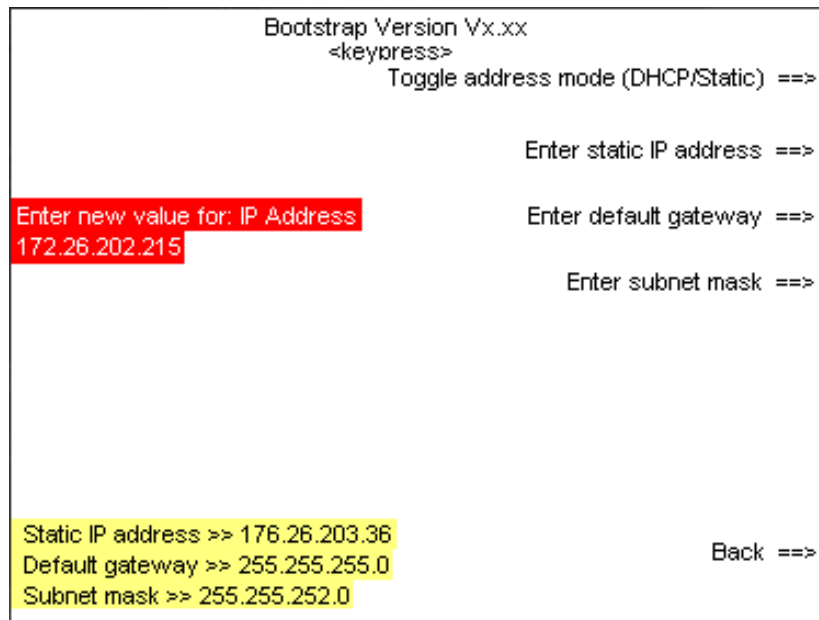

Figure 7-6. Ethernet Menu
5. Wait until the Ethernet menu is displayed, as shown in Figure 7-6.